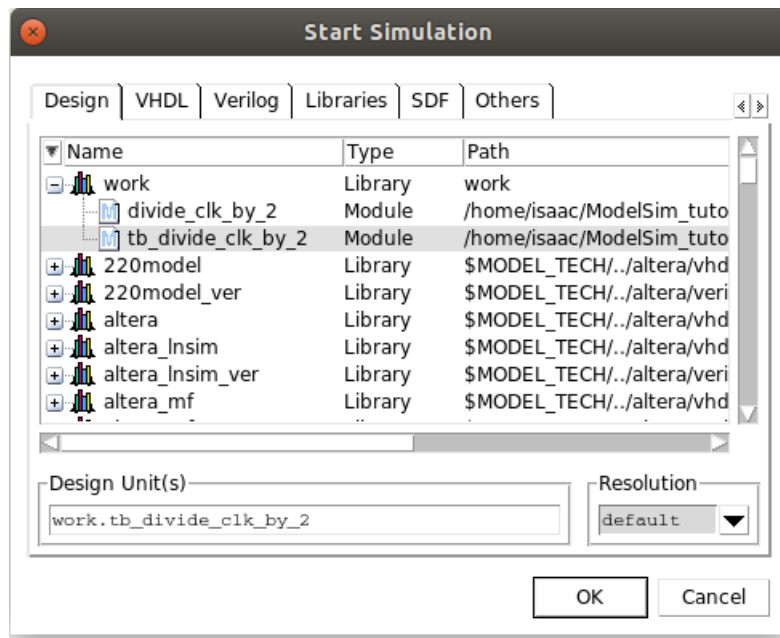
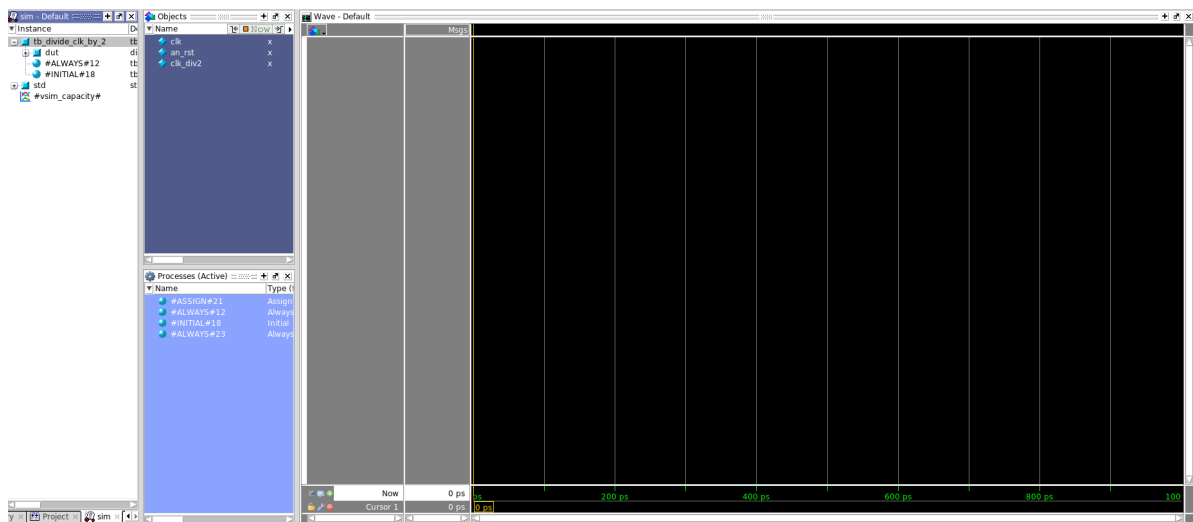

Figure 8: Start simulation.
Figure 9: Simulation environment.
8. The next step is to simulate our testbench. On the top menu, select **Simulate** → **Start Simulation**. You should be prompted with a window as shown in Figure 8. Click on the + sign next to **work**, select **tb\_divide\_clk\_by\_2.sv** and click **OK**. You should see something similar to Figure 9.